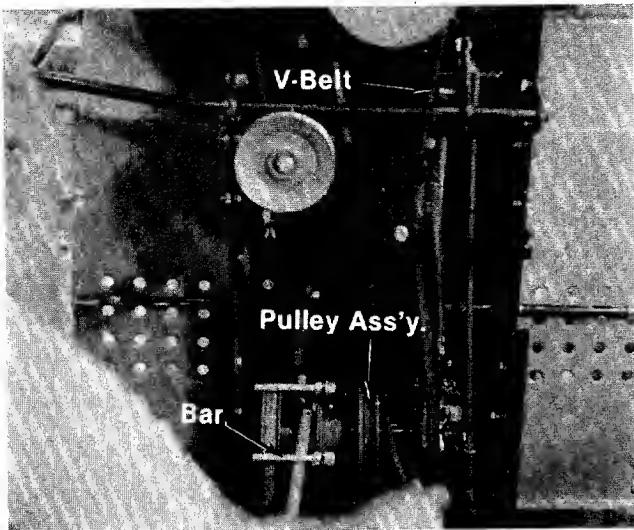

FIGURE 17.
- Using a bar or large screwdriver, pry the pulley assembly towards the front of the tractor and unhook the belt from the pulley. See figure 17.